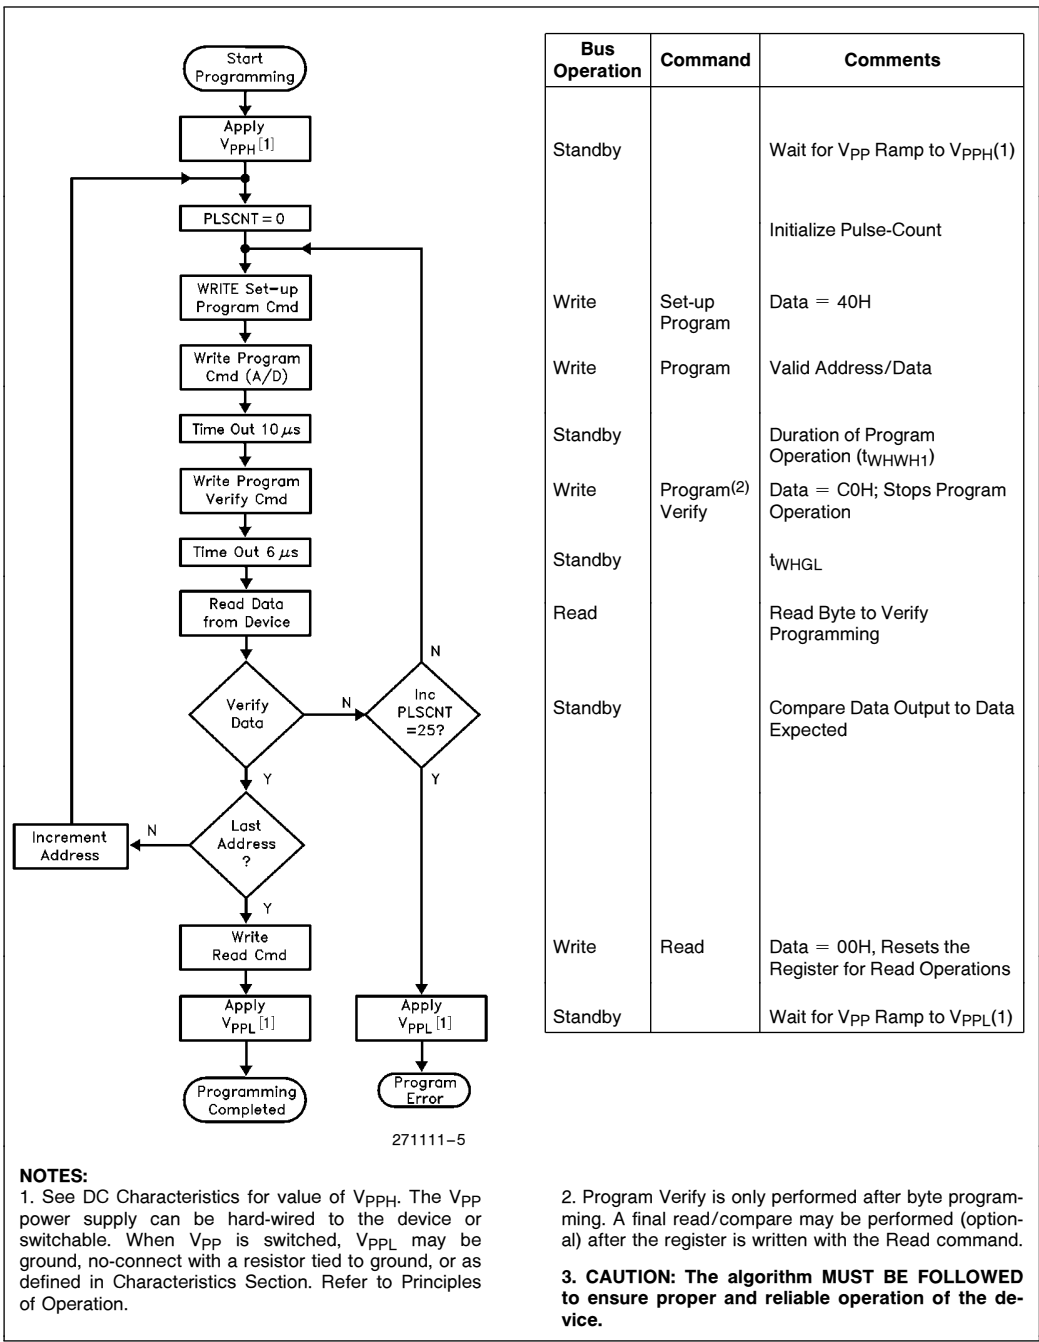

Figure 4. M28F010 Quick-Pulse Programming Algorithm
6. Figure 4 illustrates the Quick-Pulse Programming Algorithm.
The M28F010 applies an internally-generated margin voltage to the byte. A microprocessor read cycle outputs the data. A successful comparison between the programmed byte and true data means that the byte is successfully programmed. Programming then proceeds to the next desired byte location. Figure 4, the M28F010 Quick-Pulse Programming algorithm, illustrates how commands are combined with bus operations to perform byte programming. Refer to AC Programming Characteristics and Waveforms for specific timing parameters.
The Quick-Pulse Programming algorithm uses programming operations of 10 μ s duration. Each operation is followed by a byte verification to determine when the addressed byte has been successfully programmed. The algorithm allows for up to 25 programming operations per byte, although most bytes verify on the first or second operation. The entire sequence of programming and byte verification is performed with V_{PP} at high voltage. Figure 4 illustrates the Quick-Pulse Programming algorithm.